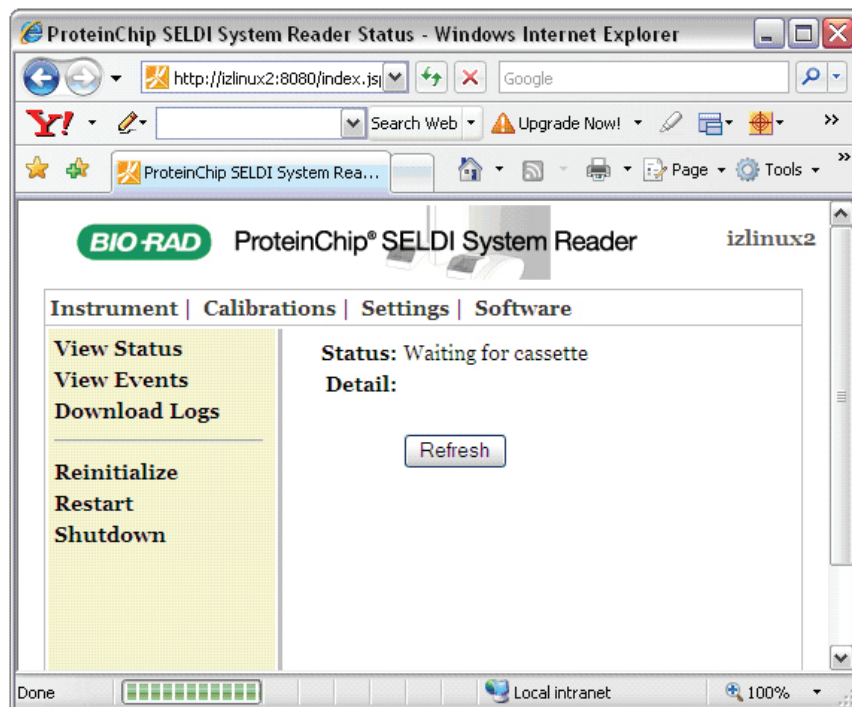

Fig. 23: The reader web page.
3. The reader web page will appear (Fig. 23).